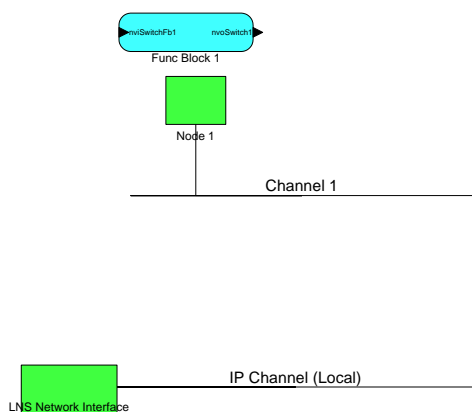

Figure 101: Move the LNS Network Interface to the newly created IP Channel.
7. If the L-IP is used as a CEA-709 configured router one should add the L-IP in the LonMaker drawing. Create a new Channel with channel type IP-10L in an Intranet or IP-10W in an Internet environment. Move the LNS Network Interface to this newly created IP channel as shown in Figure 101 by selecting the LNS Network Interface and choosing “Change Channel” from the context menu.